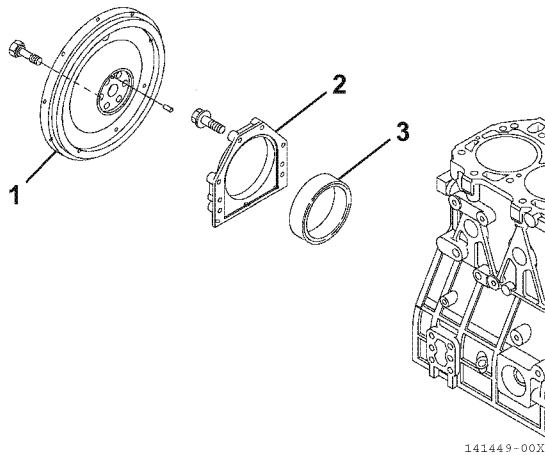

Figure 6-72
3. Remove the rear oil seal (3, **Figure 6-72**) from the seal housing (2, **Figure 6-72**).
4. Apply a continuous bead of ThreeBond Liquid Gasket No. 1207F, YANMAR Part No. 977770-1207F to the outside diameter of a new oil seal (2, **Figure 6-72**), and install in the housing. Apply lithium grease to the lip of the seal.